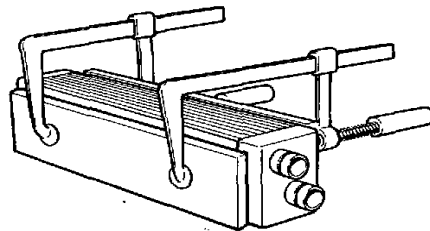

Fig. 181. Fitting side supports prior to pressure testing the heat exchanger, TAMD60.
**NOTE! The heat exchanger insert for TAMD60 must be supported from the sides according to fig. 181 before pressure testing.**